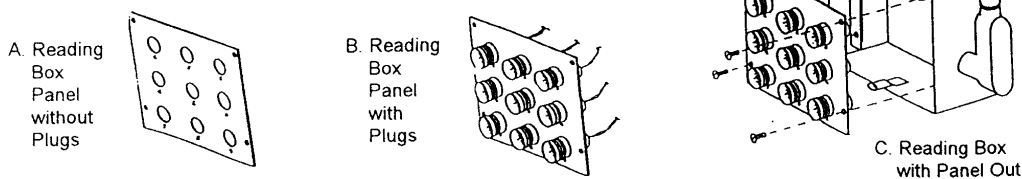

Figure 4.
- A. Remove the reading plug panel from the enclosure. **See Figure 4.**